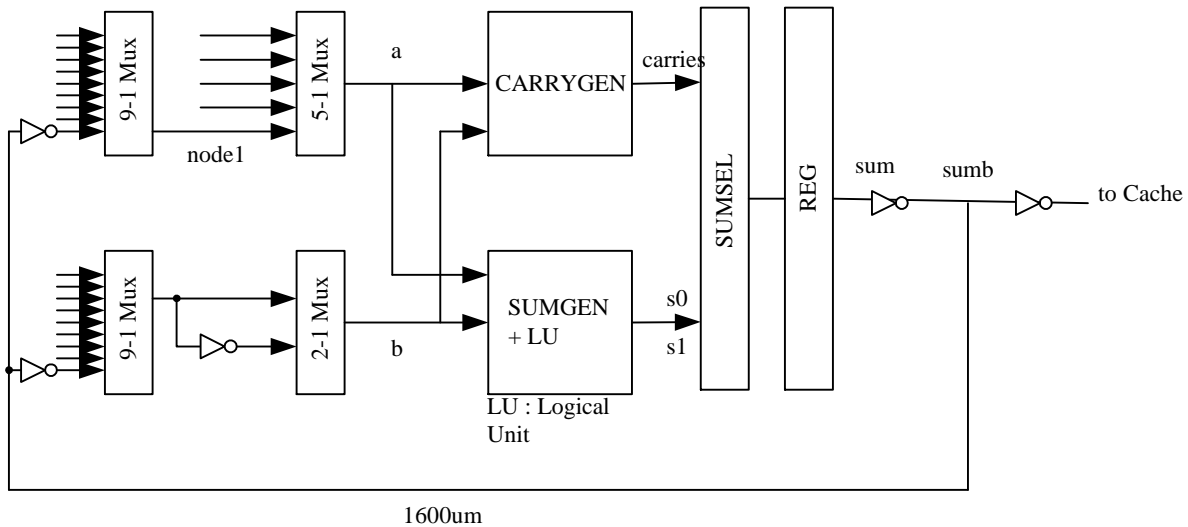

Figure 1. ALU high-level block diagram.
The high-level block diagram of a high-performance ALU is shown in Figure 1.
- Arithmetic block: This block is used to perform arithmetic operations such as addition, subtraction and comparison. The core of the arithmetic block is an adder. In the architecture presented in Figure 1, the adder uses carry look-ahead and sum-select techniques (the blocks labeled CARRYGEN, SUMGEN and SUMSEL).
- Logic block: This block is used to perform simple bitwise logic operations such as AND (masking), OR and XOR (the block labeled LU in Figure 1)
- Multiplexers: These blocks are used to select the appropriate inputs for the arithmetic and logic blocks. Usually more than two buses arrive at the inputs of the ALU (9 buses in Figure 1, selected by 9:1 MUX's). Sometimes these multiplexers are used to perform